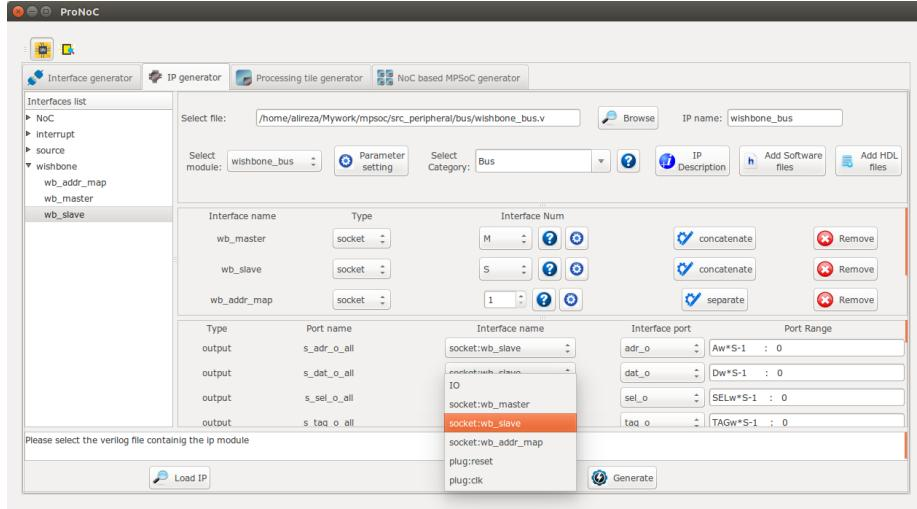

Figure 3.3: Wishbone Bus module interface mapping snapshot.
10. After adding the interfaces you must map the top module ports to the interfaces ports. For each top level module port you need to select the interface name and interface port. Figure 3.3 illustrates a snapshot of interface mapping for Wishbone Bus module.